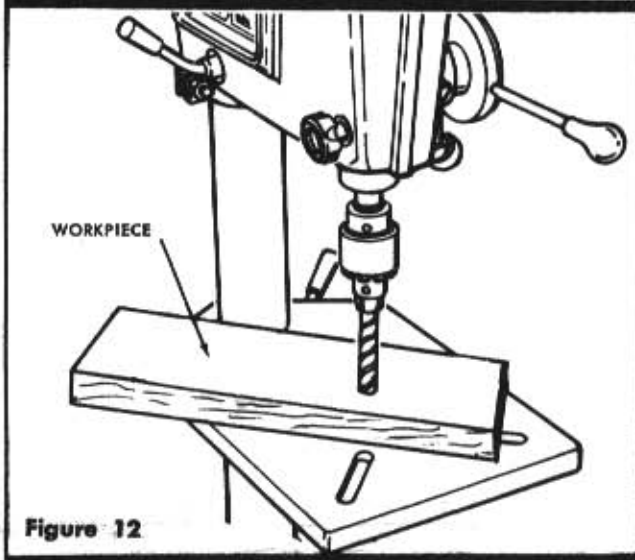

Figure 12
6. **Preventing Movement of Workpiece When Drilling.** To prevent work from being torn from operator's hands, position wood or metal items against the left side of the column. (See figure 12.) If a workpiece is too short to reach the column, clamp it to the table or use a drill vise which should be clamped or bolted to table. Reduce rate of feed when drill starts to break through metal workpiece to prevent "grabbing" by the drill.